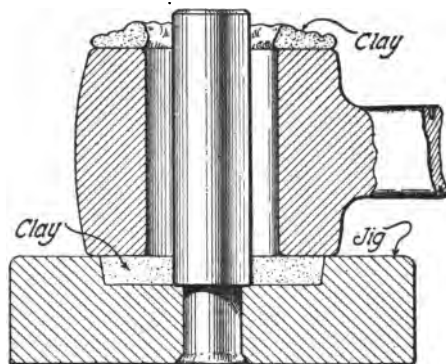
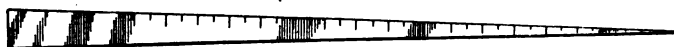

Fig. 10. Jig and Bearing Container Ready for Pouring
Fig. 11. Tapered Steel Gage
**Pouring the Babbitt.** The jig is now ready for use. Fill the groove *B* with plastic fire clay even with the surface of the flange and place the bearing container over the shaft of the jig, as shown in Fig. 10. The bearing container should be adjusted over the shaft of the jig so that the space on all sides is exactly the same, determining this with a tapered steel gage, Fig. 11. Drop the gage into one side and note the mark on the taper where it comes to rest when touching the jig shaft and the bearing container.